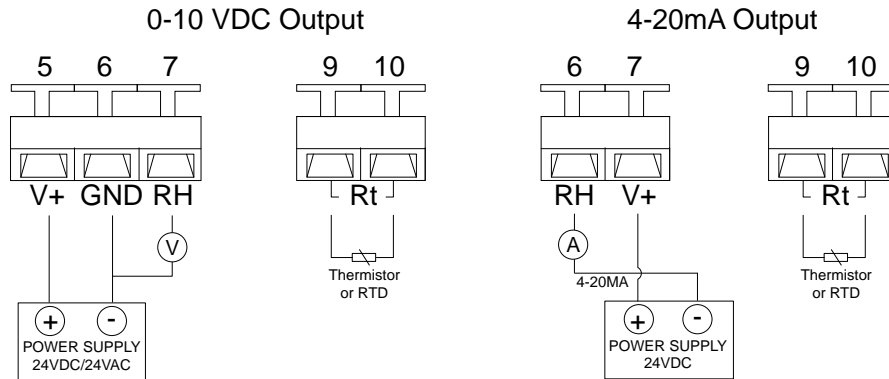

Figure 6 AcuHUM DM Wiring Diagram, RH and Resistive Temperature Output
**NOTE:** If using 4-20mA output for RH/temperature signal the sensor must be powered with 18.5~35VDC (RL=500Ω). Ensure that the analog input common reference of the BAS controller, PLC, automation panel is connected to an DC power supply common to complete the circuit. Device will not work if common references are not connected. See Figure 6 below.